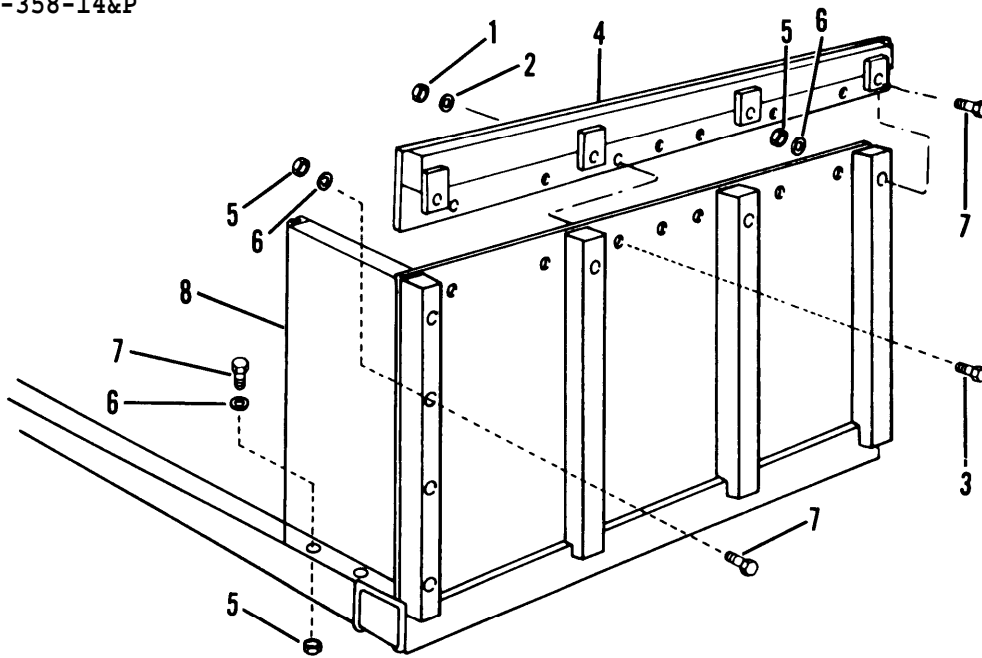

Figure 4-59. Chassis Bulkhead Assembly
- (1) Remove nine nuts (1, fig. 4-59), washers (2) and bolts (3) from bulkhead (4) .
- (1) Remove seven nuts (5, fig. 4-59), washers (6) and bolts (7) from wing panel (8).
- (2) Remove wing panel (8).
- (3) Repeat steps 1 and 2 for other wing panel as needed.
- (1) Install wing panel (8, fig. 4-59).
- (2) Secure wing panel (8) with seven bolts (7), washers (6) and nuts (5).
- (1) Install bulkhead (4, fig. 4-59).